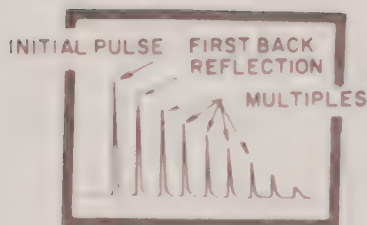

Figure 3-5 Back Reflection CRT Waveforms
- (1) Place search unit on block so that only the Back Reflection shows. Increase sweep range and note that the Back Reflection moves to the left toward the Initial Pulse and that more indications appear moving in from the right side of screen. (Figure 3-5). Sound bounces off the bottom of the block and travels to the top of the block where a portion is transformed into electrical energy by the crystal, is amplified and displayed on the screen as the first Back Reflection. Some of the sound bounces back down to the bottom of the block and then again to the top and appears on the screen as the second Back Reflection. This bouncing between top and bottom surfaces is repeated until the sound is completely attenuated. All these bounces appear on the screen as multiples of the first back Reflection and are equally spaced on the trace. In other words, if the distance between top and bottom surfaces of